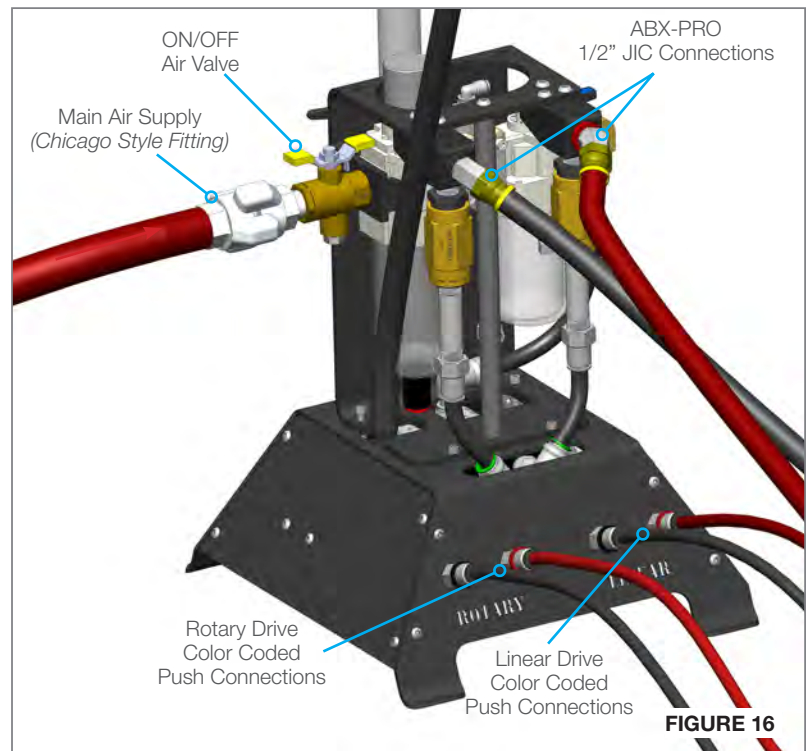

FIGURE 16
2. Connect the customer supplied, Main Air Supply line (Chicago Style Fitting) to the Control Box. **(Figure 16)**
3. Connect the color coded 3/8\" Tubing to their respective push connect fittings, located above the \"ROTARY\" and \"LINEAR\" labels on the base of the Control Box. **(Figure 16)**
4. Turn the Air Valve **ON** and operate the \"Linear\" and \"Rotary\" levers on the control box to blow out the 3/8\" Tubing lines. **(Figures 16 & 17)**